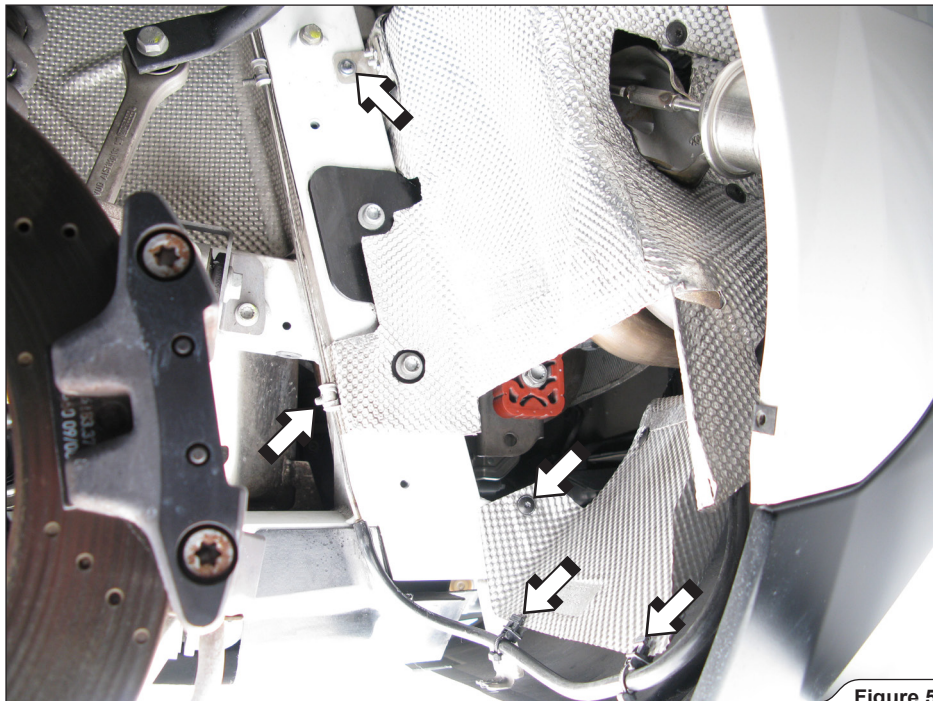

Figure 5
3. Unscrew the marked bolts and nuts on both sides and carefully remove vacuum tubes fasteners (Figure 5).